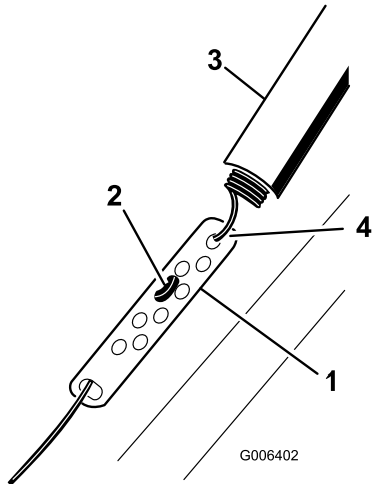

Figure 22
1. Slide up the spring cover and unhook the spring from the adjuster link (Figure 22).